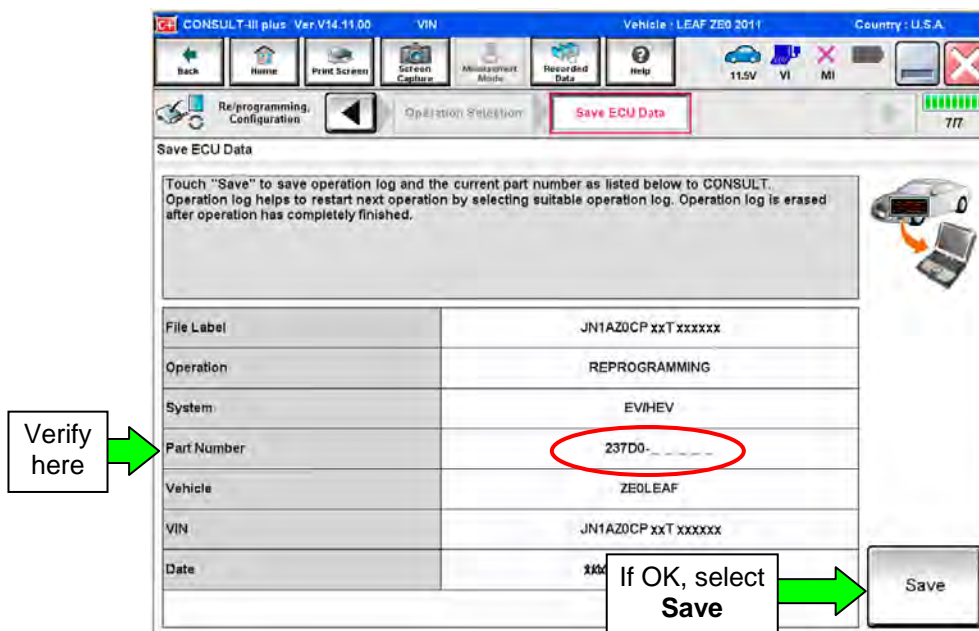

Figure 8
14. Write down the **Part Number** on the vehicle's repair order (see Figure 8) and confirm if it matches one of the part numbers in Table "A" below.